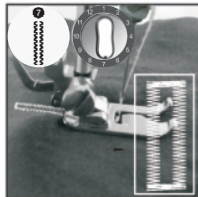

Fig.21
- (6) Choose the stitch pattern #7, then turn on switch and sew till buttonhole is fully sewed (Fig. 21).